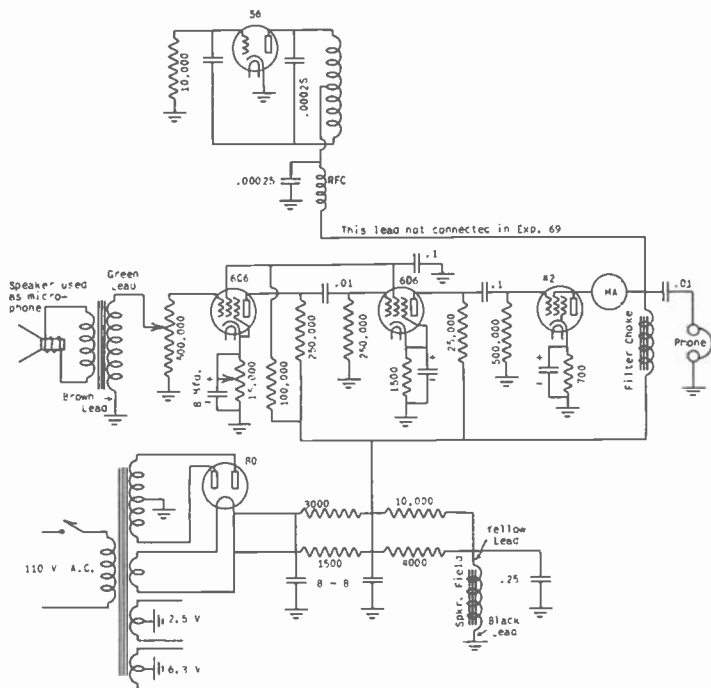

Fig. 6 Diagram of speech amplifier and modulator connected to Hartley oscillator.
**WIRING THE EXPERIMENT.** A wiring diagram for this experiment is shown in Fig. 6. Place a solder lug under the front bolt which holds socket 1 in place. Now, connect a short piece of hookup wire to the outside terminal nearest the chassis on the 500,000 ohm po-